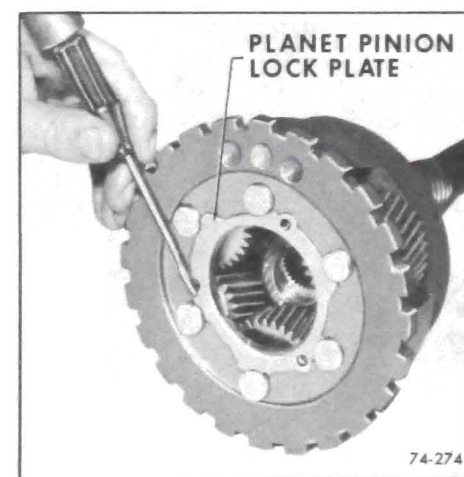

Figure 74-274
12. Install planet pinion lock plate. Rotate plate so extended portions align with slots in planet pinion shafts, and three (3) attaching screw holes. See Figure 74-274.